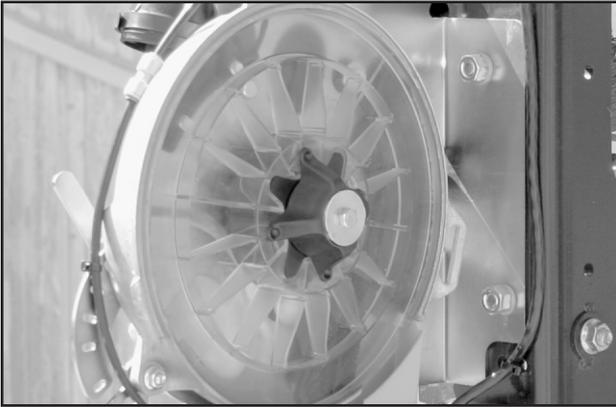

Figure 53. Shutter Closed, Blank Disc Installed
3. Install Blank Disc Refer to Figure 53.